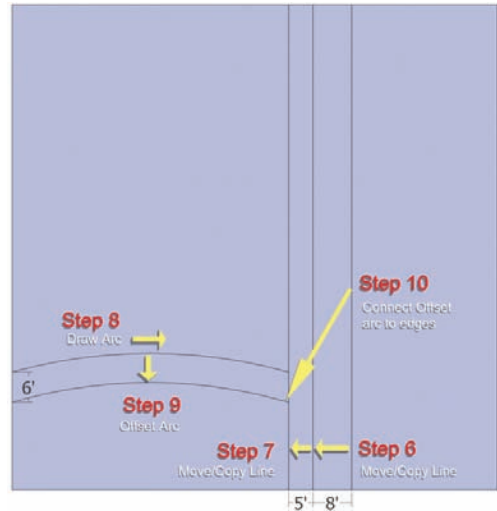

Fig. 6-8: Drafting the walks and trails
6. Define the sidewalk and tree lawn (Fig. 6-8).
8. Add a curved trail (Fig. 6-8).
- c. Select the third point to define the radius of the arc (the bulge). Make sure to snap to the On Face inference point. Give the arc a gentle curve, as shown in Fig. 6-8.
9. Duplicate the arc to define the trail. (Fig. 6-8).